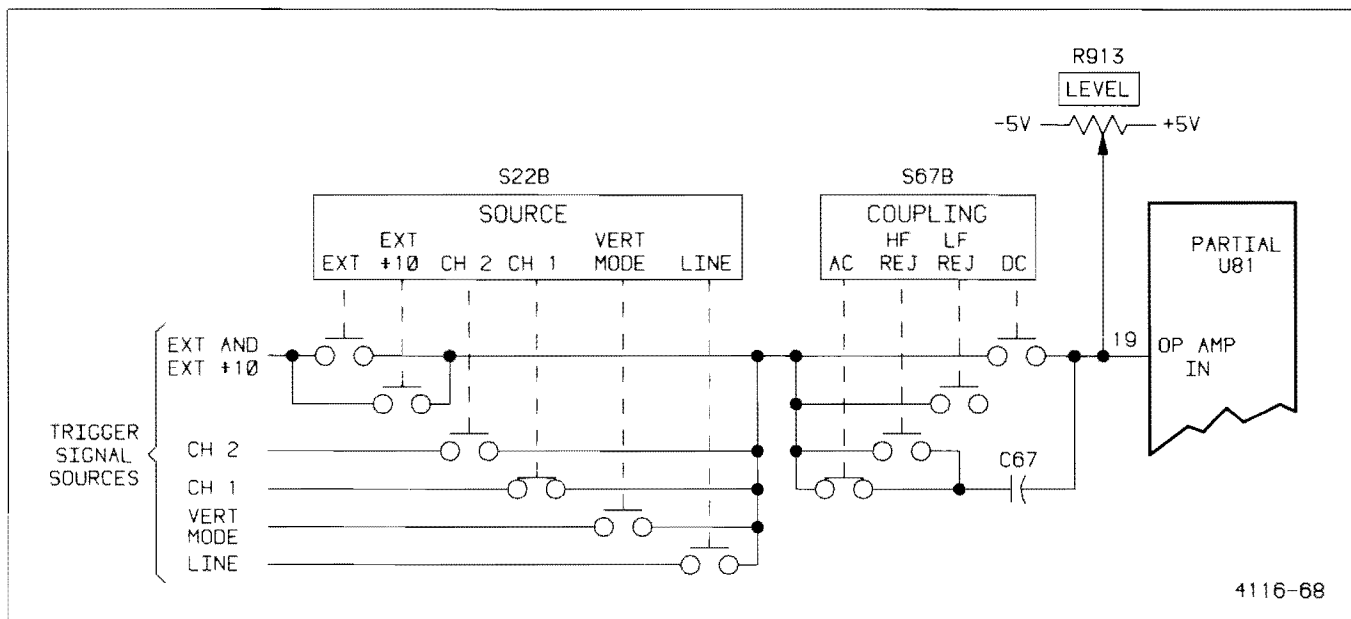

Figure 3-7. Trigger signal slow path (low frequency).
**SLOW-PATH SWITCHING.** Figure 3-7 illustrates the trigger signal slow path. As shown, the A Trigger SOURCE switch is selecting the CH 1 slow-path signal, and the A Trigger COUPLING switch is set for AC coupling. The slow-path signal is fed through C67 when either AC or HF REJ coupling is selected. The DC coupling path is directly connected, and no signal path is established when LF REJ coupling is selected.